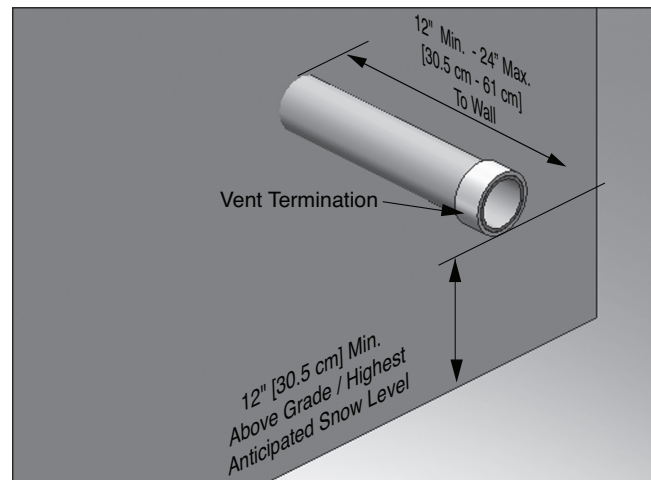
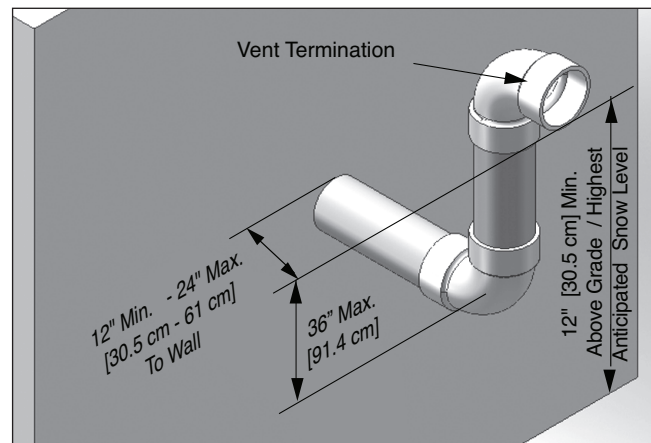
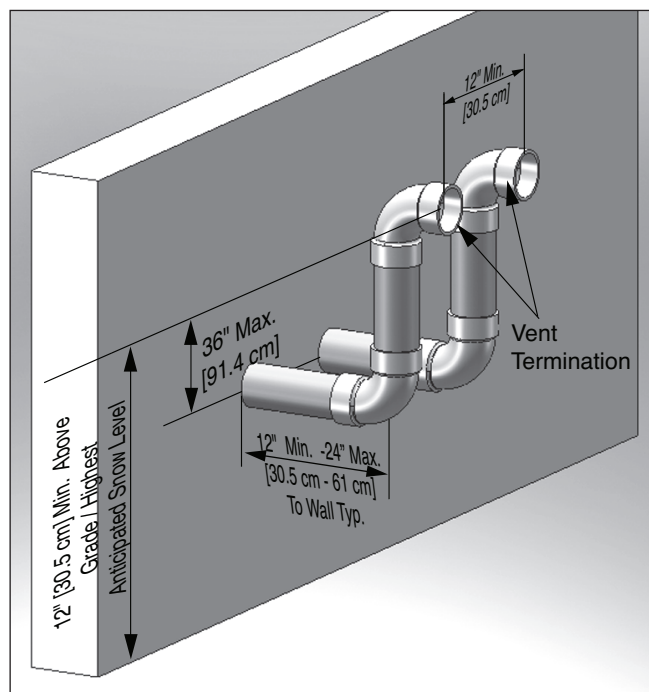

Fig. 17 - Category IV - Sidewall Termination of Vent Pipe
Fig. 18 - Category IV - Sidewall Snorkel Termination of Vent Pipe
Fig. 19 - Category IV - Sidewall Termination of Multiple GALLANT Boilers
- Using a coupling as shown in *Fig. 17*.
- Using a 90° elbow as shown in *Fig. 18*.
3. Locate the vent pipe penetration to provide clearances as described in *Fig. 17* and *Fig. 18* on page 24.
- Using a coupling as shown in *Fig. 17* on page 24.
- Using a 90° elbow as shown in *Fig. 18* on page 24.
Do not extend the vent pipe outside the sidewall beyond the dimensions shown in *Fig. 17* and *Fig. 18* on page 24. Extended exposure of the vent pipe could cause condensate to freeze and block the vent pipe, resulting in substantial property damage, serious injury, or death.
2. Each vent termination must be a minimum 12 in. [30.5 cm] from the adjacent termination for installations in the U.S. as shown in *Fig. 19* below. For installations in Canada, provide clearances as required by CAN/CSA B149.1.
- *Fig. 19* shows one option for vent terminations of multiple GALLANT boilers. Either termination option shown in *Fig. 17* or *Fig. 18* on page 24 can be used for multiple GALLANT boilers. The 12 in. [30.5 cm] minimum distance between centerlines of the vent piping must be maintained for any chosen option.
- Reference *Fig. 17* and *Fig. 18* on page 24 for vent termination dimensions for each unit installed in a multiple installation.